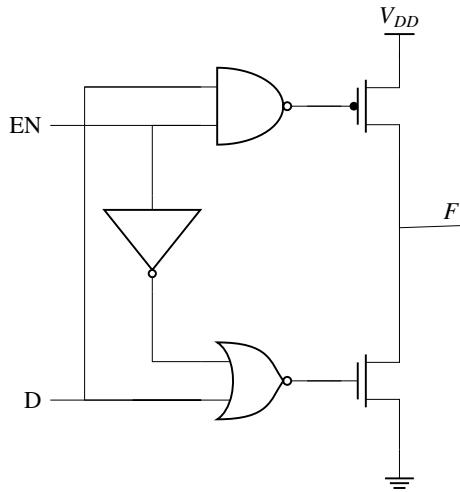

Fig. 3.21: Circuit Diagram
37. In the circuit shown in Fig. 3.21, what are the values of F for $EN = 0$ and $EN = 1$, respectively?